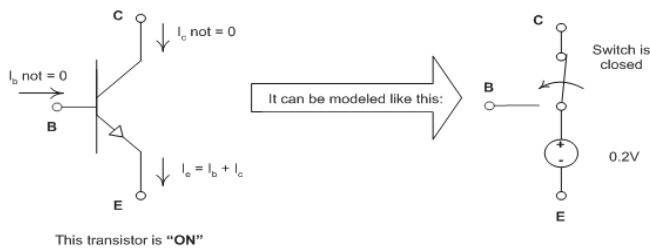

Figure 4.5: BJT as a switch (when the transistor is ON)
2. Adjust the voltage from the smallest value possible, to the largest. Plot ten points on the graph in Figure 4.5. Plot five negative diode voltages and five positive diode voltages, so the conductive properties of a zener diode are clearly understood.
The simplest way to use a BJT is as a switch. The "contacts" of an NPN BJT switch are closed by injecting base current and are opened by removing base current. When sufficient base current is present and collector current is flowing, the collector and emitter terminals are essentially connected together with a voltage source of approximately 0.2V. The voltage source does not actually exist inside the transistor, but a potential difference of 0.2V still exists between the collector and the emitter. See Figures 4.5 and 4.6.